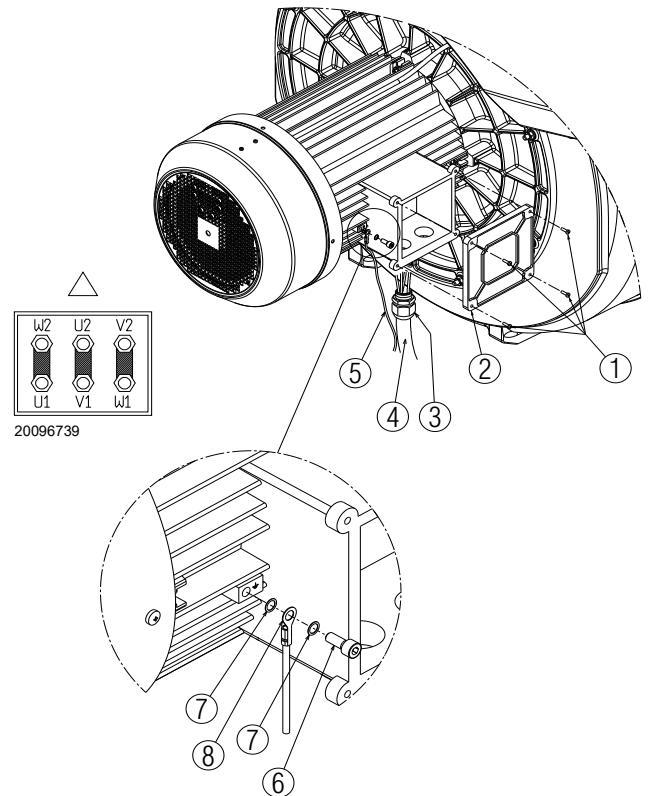

Fig. 30
- to access the motor casing, loosen the four screws 1)(Fig. 30) and remove the cover 2).
- Make a final visual check, then close the motor casing by tightening the 4 screws 1)(Fig. 30).